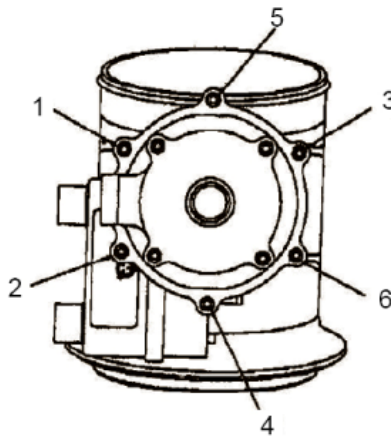

Figure 6.- IMV Valve RMO Flex Shaft Interface Noncaptive Fasteners.
- 2.3 Loosen (do not remove) IMV Valve RMO Flex Shaft Interface noncaptive fasteners (six) (Ratchet, 1/4" Drive; 5/32" Hex Head, 1/4" Drive). Refer to Figure 6.